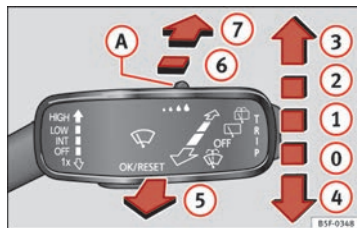

Fig. 71 Operating the windscreen wiper and rear wiper
- Press the windscreen wiper lever downwards briefly ⇒ Fig. 71 ④.